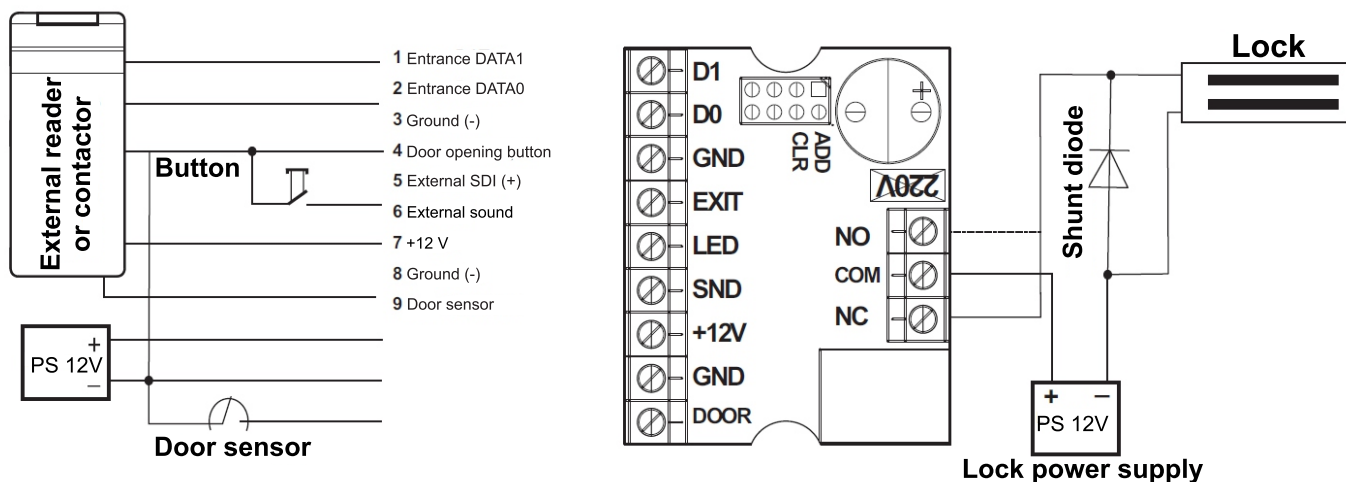

Figure 6. Connecting external devices
Important! To protect the relay contacts from burning out when connecting an inductive load in the form of an electromagnetic or electromechanical lock, a shunt diode included in the delivery set should be installed parallel to the lock winding (see Fig. 6).
4. Install the protective diode (see Fig. 6) in the case of inductive load (electromagnetic or electromechanical locks).